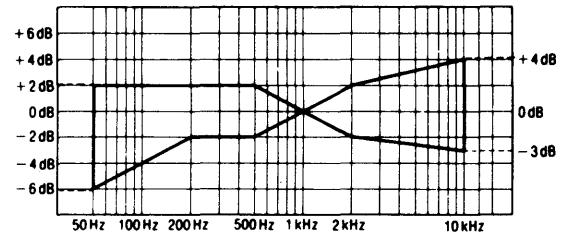

Fig. 8
4. Play back the test signals just recorded and verify that the levels at the test frequencies fall in the ranges specified in **Fig. 8** with respect to the reference signal level.